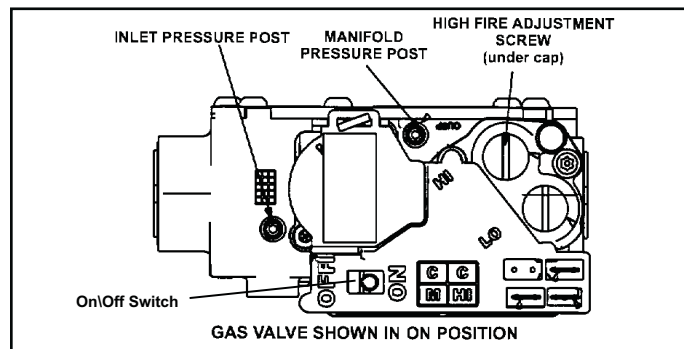

Figure 78.
6. Move gas valve switch to OFF. See Figure 78.
8. Move gas valve switch to ON. See Figure 78.
1. A manifold pressure post located on the gas valve provides access to the manifold pressure. See Figure 78. Back out the 3/32 Hex screw one turn, connect a piece of 5/16" tubing and connect to a manometer to measure supply pressure.
6. Repeat on high fire and compare to value given in Table 25. If necessary, make adjustments. Figure 78 shows location of high fire and low fire adjustment screws.